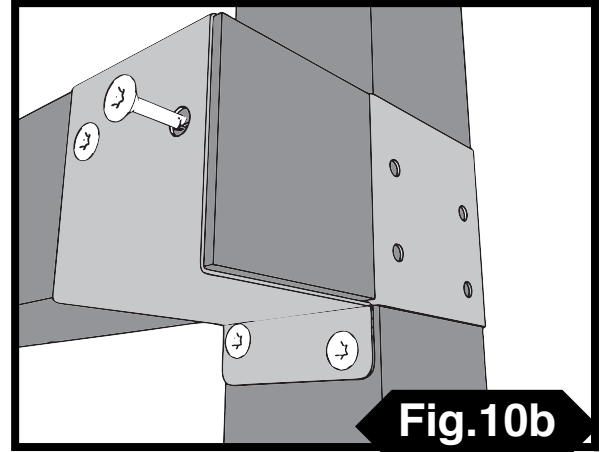

Fig.10b
- 2. Secure brackets (Fig. 10b).**